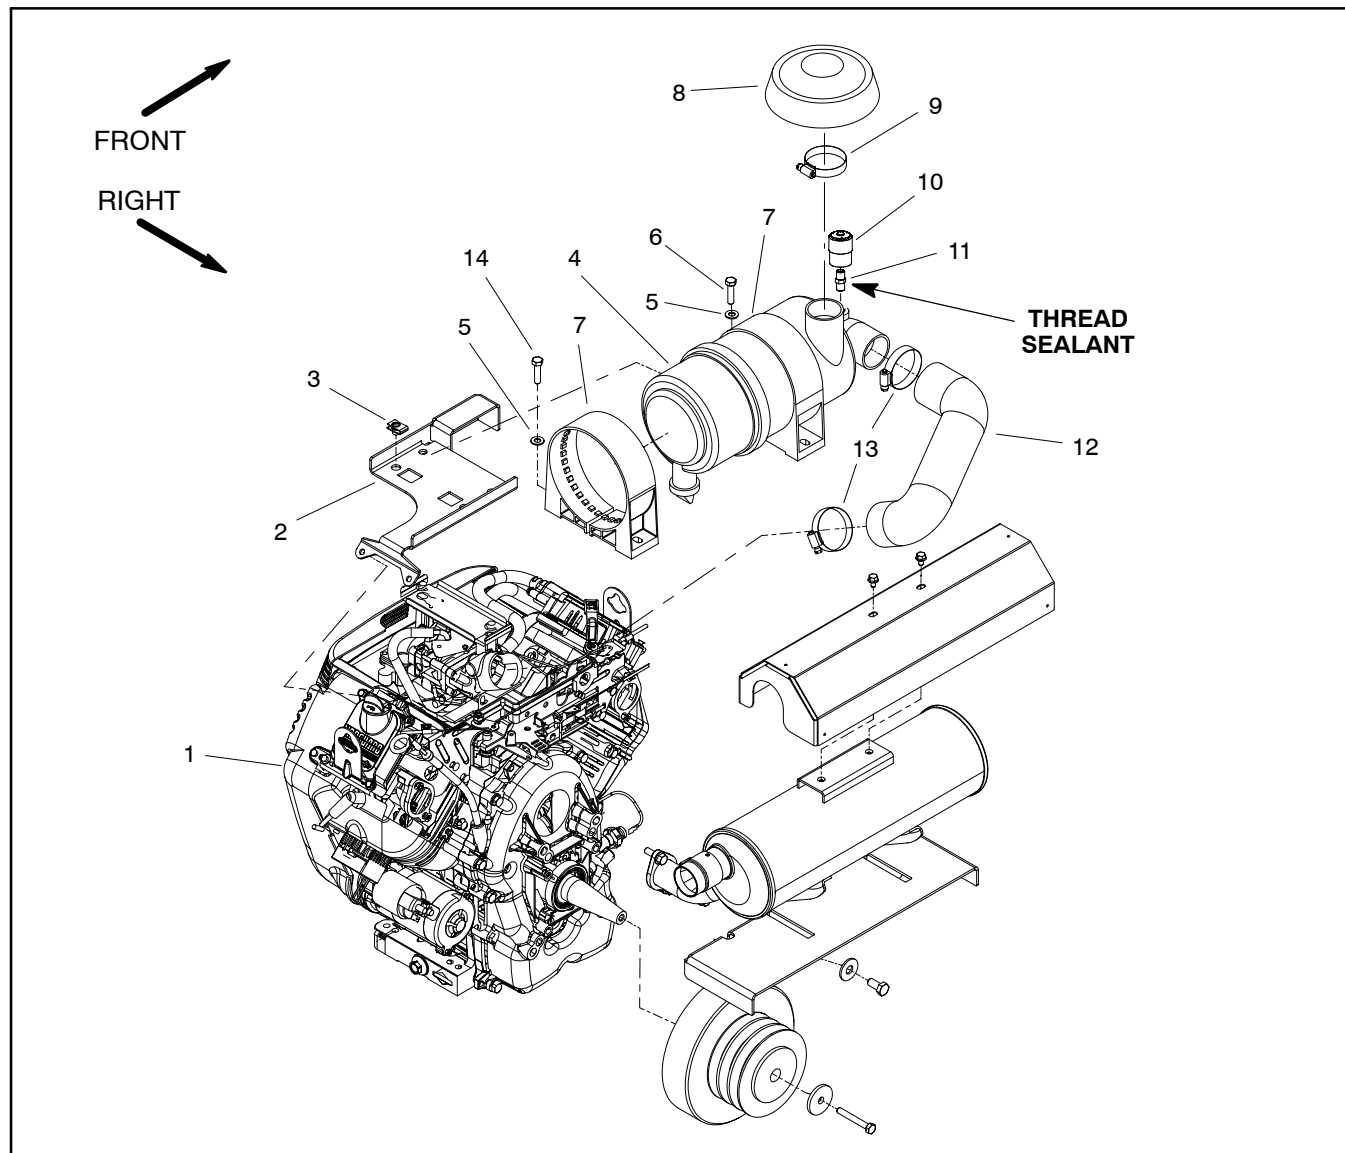

Figure 4
### Removal (Fig. 4)
2. Thoroughly clean junction of air intake hose, intake manifold on engine and air cleaner assembly. Loosen hose clamps (item 11) and remove air intake hose from machine.
3. Remove air cleaner components as needed using Figures 4 and 5 as guides.
### Installation (Fig. 4)
1. Assemble all removed air cleaner components using Figures 4 and 5 as guides.
- A. If service indicator (item 8) was removed from air cleaner housing, apply thread sealant to nipple threads before installing indicator.
2. Install air intake hose to intake manifold on engine and air cleaner assembly. Secure intake hose with hose clamps (item 11).